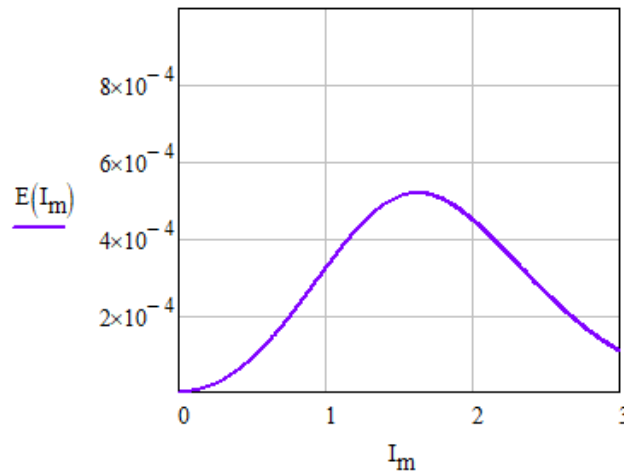

Fig. 3. Energy (in joules) of an inductor in saturation has a maximum.
If we again consider the characteristics of the inductor example cited above, we can apply equation (2) to generate a plot illustrating the dependence of stored energy on magnetizing current, as shown in Fig. 3. Clearly, this plot shows a maximum for stored energy that occurs around 1.7 A. (If we now look back at the Fig. 2 plot, we see that 1.7 A is the point in that curve where the sign change occurred.)